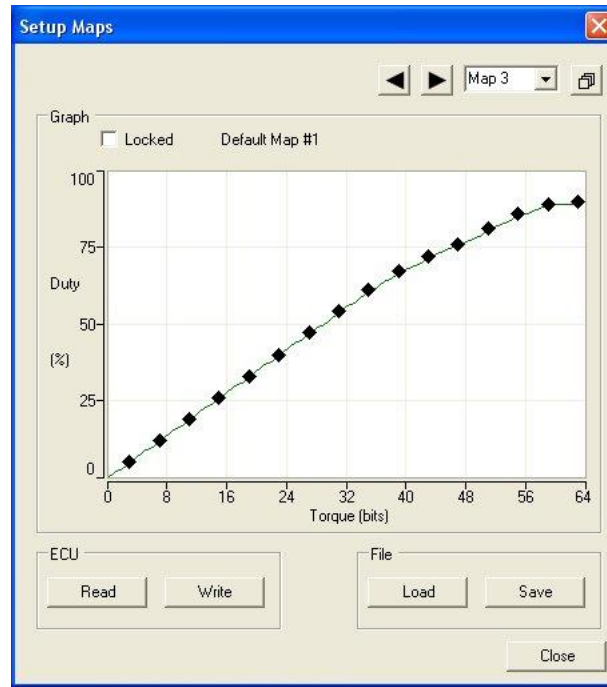

Figure 11 - Setup Maps Dialog (Map Edit)
- When the **Locked** checkbox is not checked, edit markers are displayed at 16 places along the map (Figure 11). Use the mouse to drag each of the markers until the required map shape is obtained. Note that each marker is constrained by the markers either side of it.